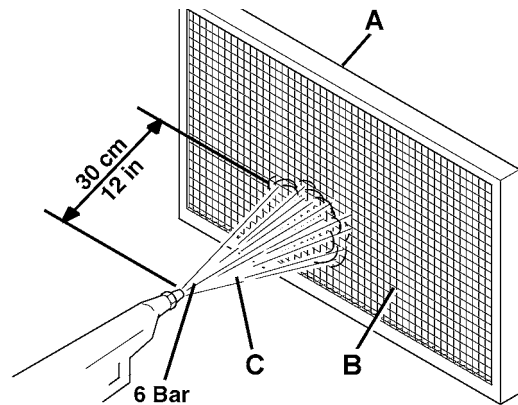
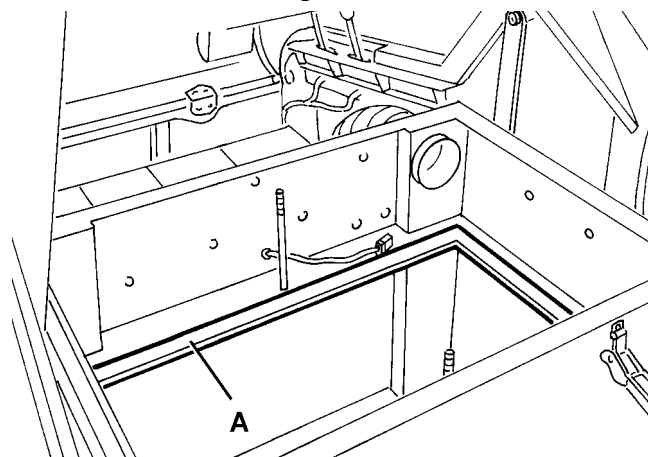

Figure 14
Figure 15
9. In an outdoor area, clean the filter by shaking it on a level and clean surface, tapping the side (A, Fig. 14) opposite to the wire gauze (B).
- Complete the cleaning procedure by using compressed air (C) at maximum 6 Bar, blowing only from the side protected by the wire gauze (B), at a minimum distance of 30 cm.
10. If necessary, clean the filter compartment rubber gasket (A, Fig. 15) along its perimeter and check it for integrity. If necessary, replace it.
- Install the filter with the wire gauze (B, Fig. 14) facing upwards.